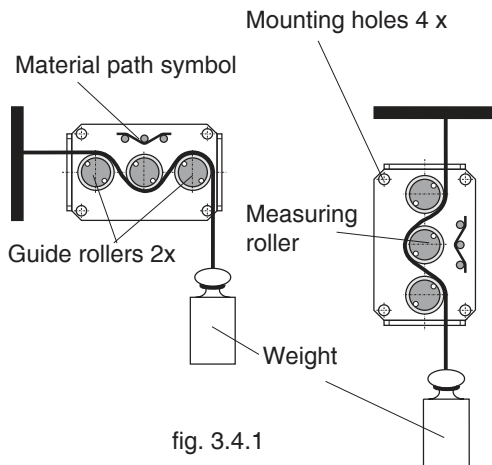

fig. 3.4.1
- Hang a weight that corresponds to 10% of the tension range from the process material, vertically, as shown in fig. 3.4.1.(Always use a fresh portion of the material to be measured.)
- Hang a weight that corresponds to e.g. 90% of the tension range (pay attention to the correct unit of measure) from the process material, vertically, as shown in fig. 3.4.1.